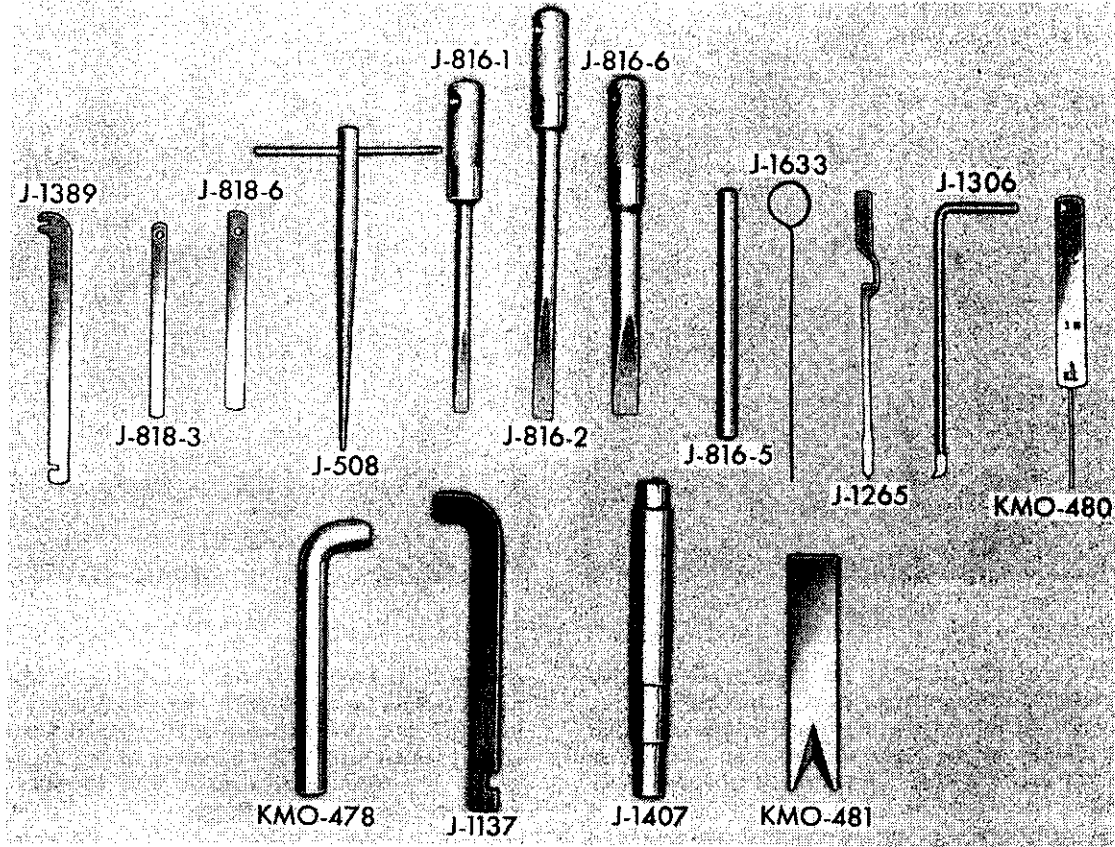

FIG. 245.—TOOLS REQUIRED TO SERVICE CARTER WE 532 S CARBURETOR
**CHAMPION** The tools illustrated in figure 245 and listed below are required to service the Carter Model WE 532 S Carburetor. These tools are included in the Carburetor Tool Kit No. J-505-SC.
### KEY TO TOOLS IN FIGURE 245